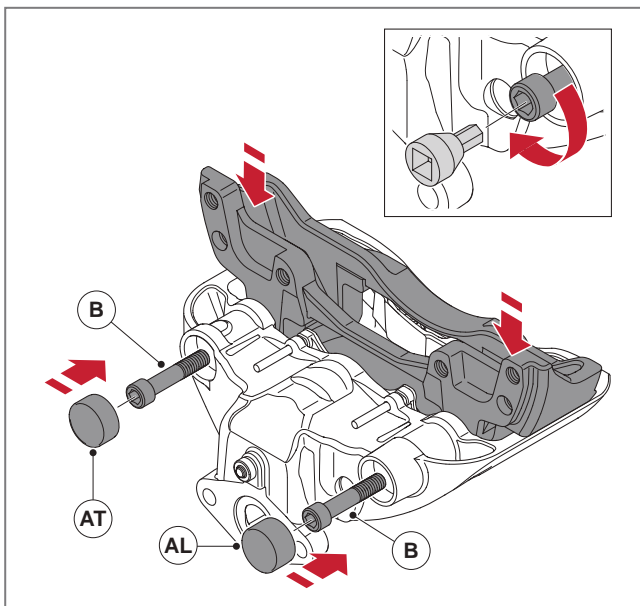

Fig. 71 - Refitting the carrier and its retaining bolts
10. Lift the carrier into position in the brake calliper, ensuring that the guide pins fitted with bellows do not interfere or obstruct. If necessary, push out the guide pins slightly by hand whilst lowering into the carrier. Hold the carrier in position whilst the two bolts are inserted and screwed in, see ► Fig. 71.
11. Use a 14 mm Allen wrench to screw in and tighten the bolts (B). The tightening torque is defined in chapter „6.2.2 SAF SBS 2220/SBS 1918 H0“.